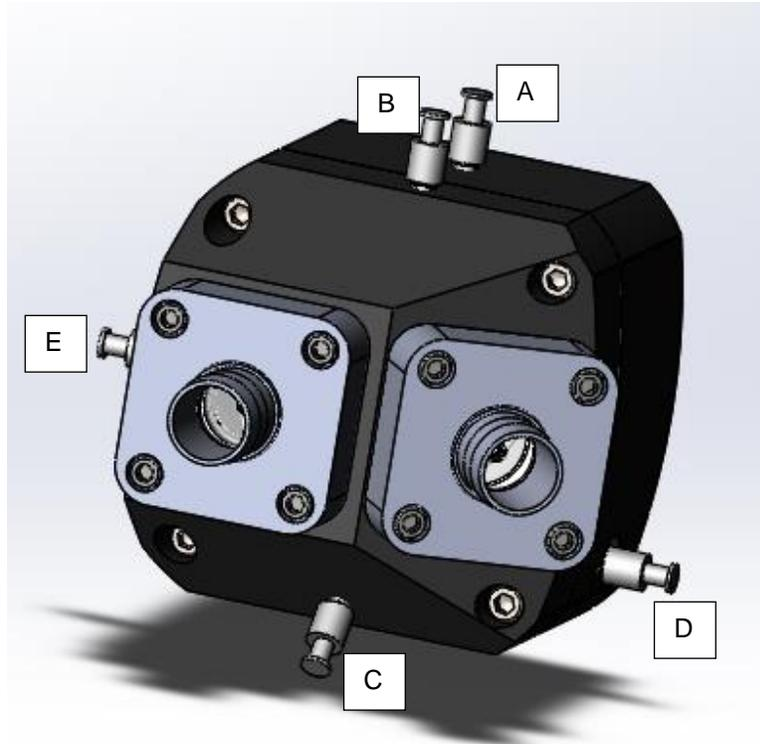

Figure 9 – Luer ports
15. To monitor ventricular pressure, a pressure transducer may be connected to Luer port E shown in Figure 9 above.